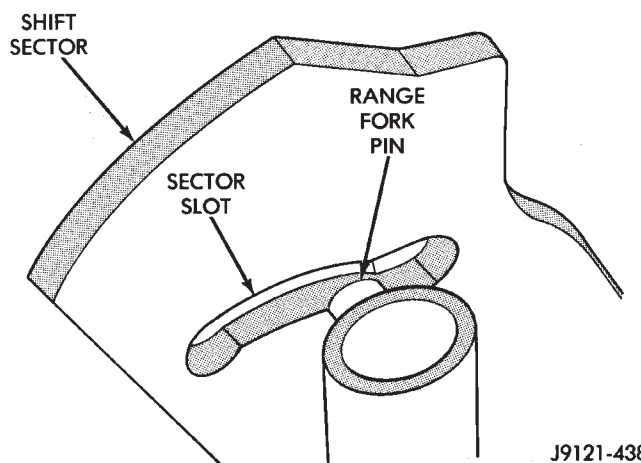

Fig. 52 Seating Range Fork Pin In Shift Sector Slot
(7) Engage range fork pin in shift sector slot (Fig 52).
(8) Insert shift hub in low range gear. Be sure hub is fully seated.